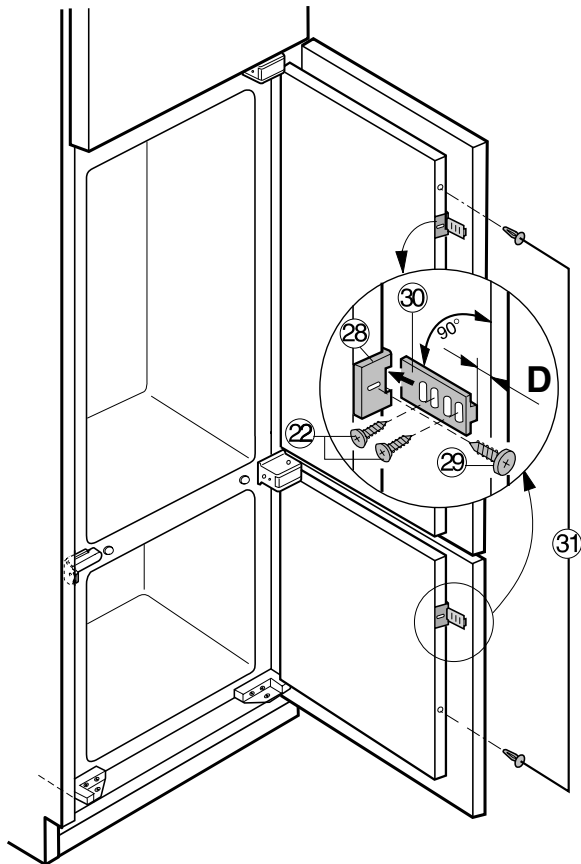
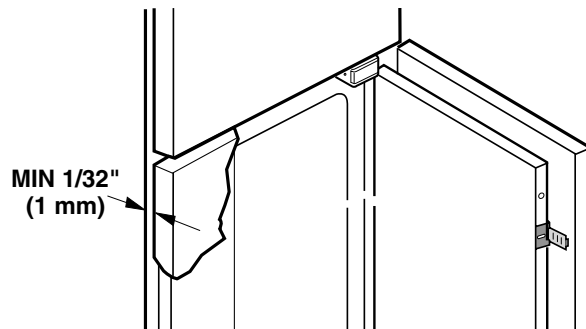

Figure 25
Figure 26
Attaching the Kitchen Cabinet Doors - Figures 25, 26
1. Attach at least one connecting element (**Fig. 25, 28**) to each appliance door using the screws (**Fig. 25, 29**) provided. Some large doors may need two connecting elements (**Fig. 25, 28**) and connecting rails (**Fig. 25, 30**).
- a) Use the pre-drilled hole(s) in each appliance door to attach the connecting element(s) (**Fig. 25, 28**) to the door of the appliance.
- b) Make sure the connecting elements (**Fig. 25, 28**) and connecting rails (**Fig. 25, 30**) do not interfere with the kitchen cabinet door handles.
- a) Slide one connecting rail (**Fig. 25, 30**) into each connecting element (**Fig. 25, 28**).
- b) Attach the connecting rails (**Fig. 25, 30**) to the kitchen cabinet doors using the screws (**Fig. 25, 22**) provided.
- i) Make sure the front edge of each connecting rail is recessed (dimension "D" in **Figure 25**) from the edge of the kitchen cabinet door.
- ii) Make sure the connecting rails (**Fig. 25, 30**) are parallel to the bottom edge of the kitchen cabinet doors.
3. Adjust the connecting elements (**Fig. 25, 28**) so there is a 1/32 in. (1 mm) gap (**Figure 26**) between the door of the kitchen cabinet and the handle side of the kitchen cabinet wall when the door is closed.
4. Use an awl to open the remaining holes on the front edge of each appliance door. Insert plugs (**Fig. 25, 31**) into each hole.